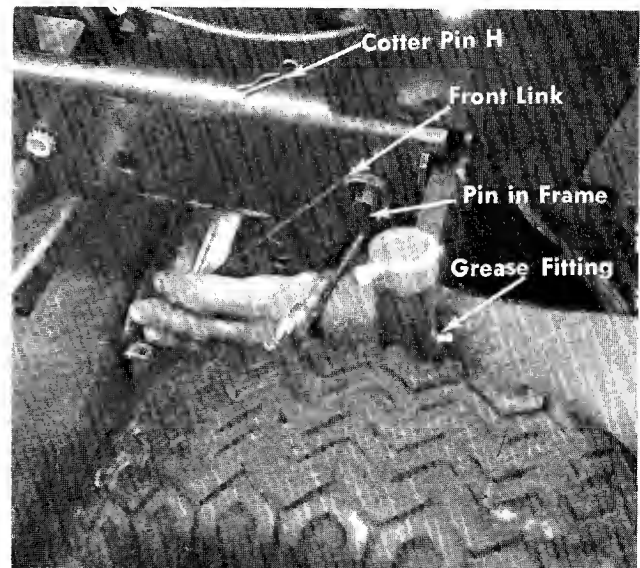

FIGURE 11. FRONT LINK ASSEMBLY
- From the front of the rider, grasp both front links and hook them in the pins in frame and secure with cotter pins "H". See figure 11.